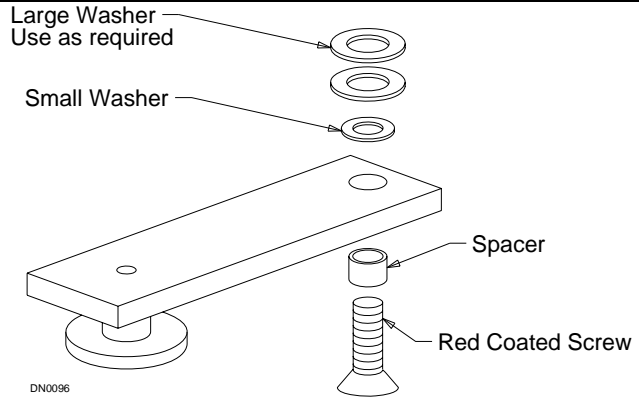

Figure 13
11. Assemble limit arm (see Figure 13). Rest wheel of limit arm inside upper rail of swing panel. Install red coated screw in factory drilled hole on bottom of header. Use one or two large washers as required.